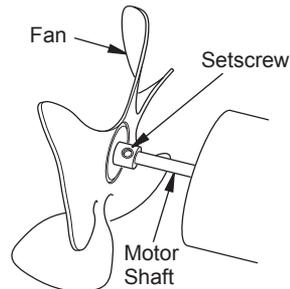

Figure 8 - Fan, Motor Shaft, and Setscrew Location
- Replace fan on motor shaft. Make sure setscrew is touching back of flat surface on motor shaft (see Figure 8).